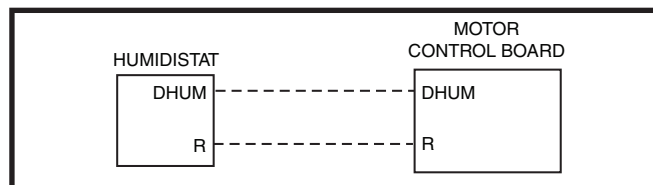

Figure 7. DHUM Wiring Configuration
- If the room thermostat incorporates a humidity sensor and **DHUM** output, connect the **DHUM** on the thermostat to the **D** terminal on the motor control board. See Figure 7.